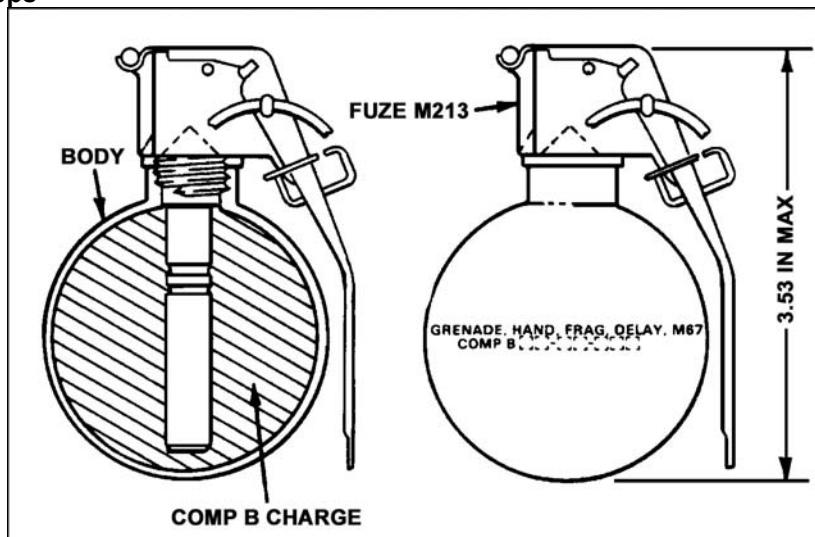

Figure 5. M67 fragmentation grenade.
- a. M67 Fragmentation (Figure 5). This grenade is used to disable or kill personnel. It explodes four to five seconds after safety lever is released. The effective casualty-producing radius is 15 meters.